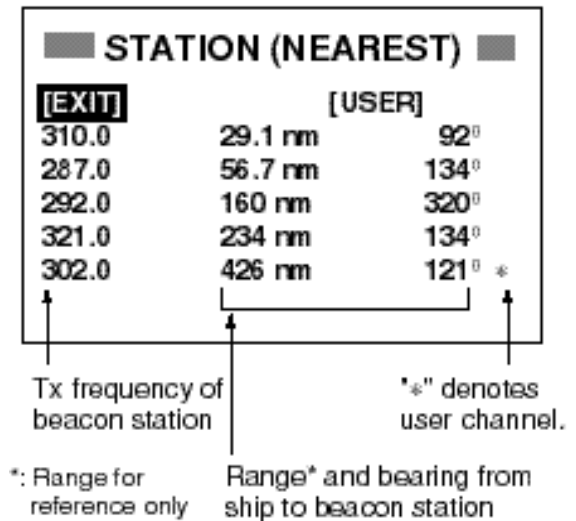

Figure 7-8 DGPS beacon station list
4. Select LIST and press the [ENT] key. The display shown in Figure 7-8 appears.